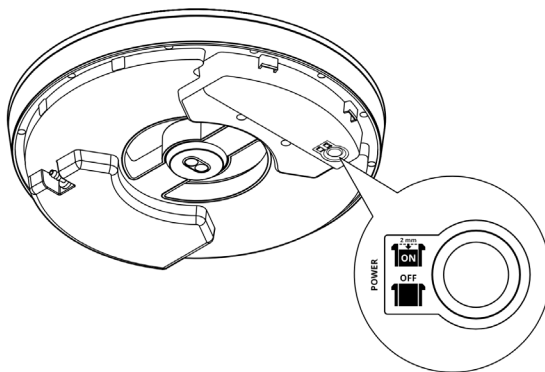

Figure 11
3. Activate the Boum Controller. To do this, press the ON/OFF button at the underside of the controller. Check Fig. 11 to see the ON and OFF configuration of the button. The Boum Controller will then switch to pairing mode after a few seconds, indicated by a flashing blue status LED on the top of the Controller. Note: In bright sunlight, the flashing LED may be difficult to see.